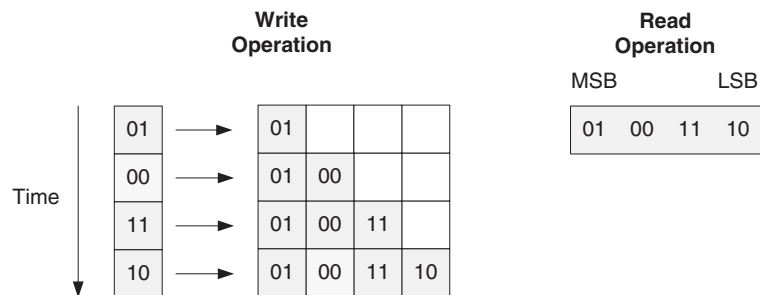
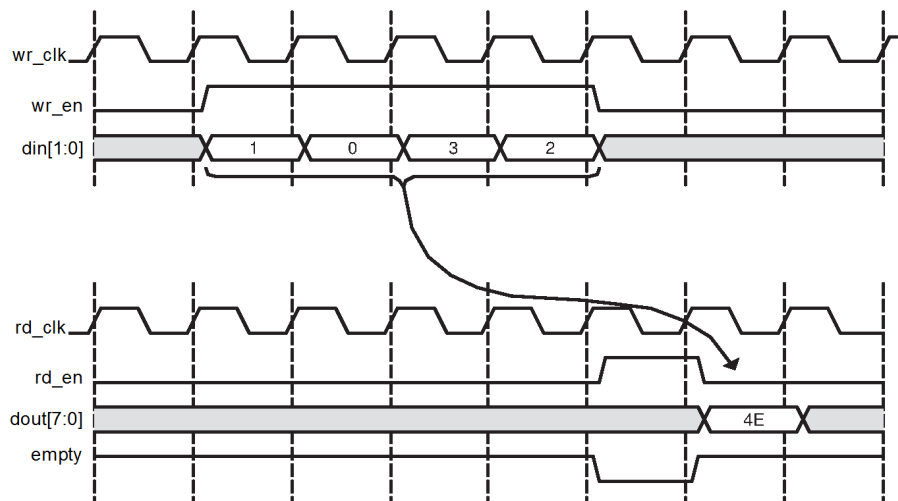

Figure 3-13: 1:4 Aspect Ratio: Data Ordering
Figure 3-14: 1:4 Aspect Ratio: Status Flag Behavior
**Note:** For non-symmetric aspect ratios where the write width is smaller than the read width (1:8, 1:4, 1:2), the most significant bits are read first (refer to Figure 3-13 and Figure 3-14).
Figure 3-13 is an example of a FIFO with a 1:4 aspect ratio (write width = 2, read width = 8). In this figure, four consecutive write operations are performed before a read operation can be performed. The first write operation is 01, followed by 00, 11, and finally 10. The memory is filling up from the left to the right (MSB to LSB). When a read operation is performed, the received data is 01\_00\_11\_10.
Figure 3-14 shows `din`, `dout` and the handshaking signals for a FIFO with a 1:4 aspect ratio. After four words are written into the FIFO, `empty` is deasserted. Then after a single read operation, `empty` is asserted again.